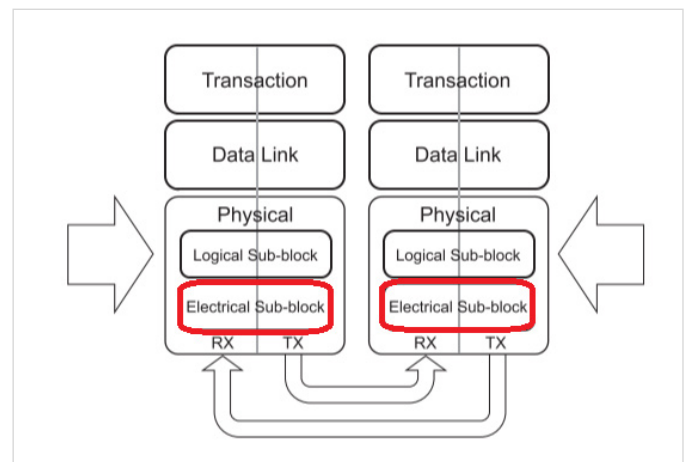

Figure 2: PCI Express Block Diagram
The PCI Express 6.0.1 Base Specification segments the PHY Layer into a logical sub-block and electrical sub-block (**Figure 2**). Validation of the electrical sub-block is a prerequisite to full validation of the PHY Layer and will be the focus of this paper. The electrical sub-block is comprised of a transmitter (Tx), receiver (Rx), reference clock (Refclk), and channel requirements. Transceivers (Tx & Rx) supporting the new 64 GT/s data rate must also maintain backwards compatibility with the lower speeds of (2.5, 5.0, 8.0, 16.0, & 32.0) GT/s. The pulse amplitude modulation method introduced in 6.0.1 requires four distinct signal levels (PAM4) which allows transmission of two bits of information within a single unit interval (UI). The move from NRZ (two signal levels) to PAM4 ensures the channel loss is consistent with PCIe 5.0 (32 GT/s) as the Baud Rate is 32 Gb/s for both speeds with a shared Nyquist frequency of 16 GHz.